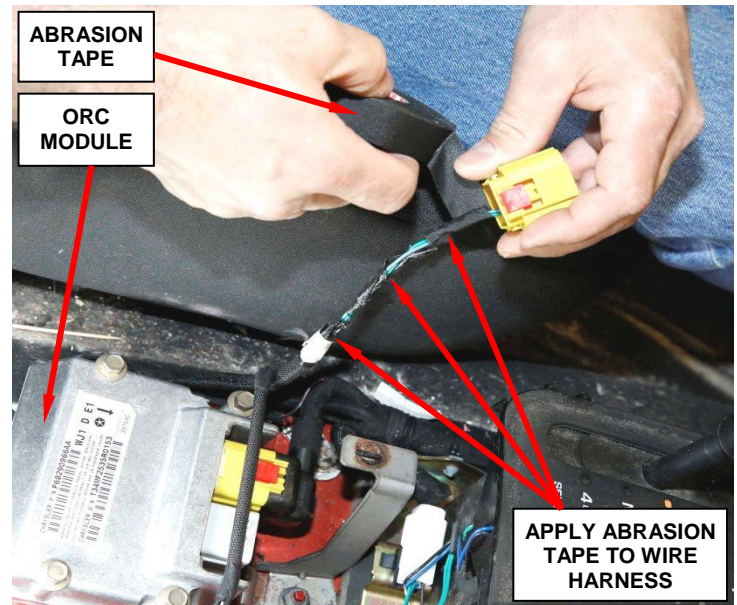

Figure 19 – Wrap Wiring with Tape
7. Using the supplied tape, wrap the wire harness with tape to protect the wires (Figure 19).